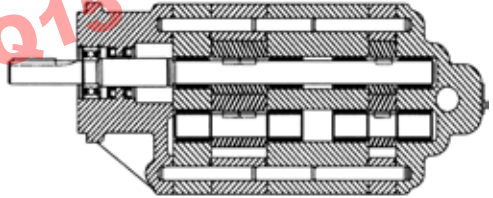

FIGURE 7
NOTE: If pump has 2 casing and gear sets (RP-0724) and (RP-0732), the casing and gears are matched sets. Keep individual casing and gears together. See Figure 7.
**NOTE:** If pump has 2 casing and gear sets (RP-40724) and (RP-40732), the casing and gears are matched sets. Keep the individual casing and gears together. Reference Figure 7.